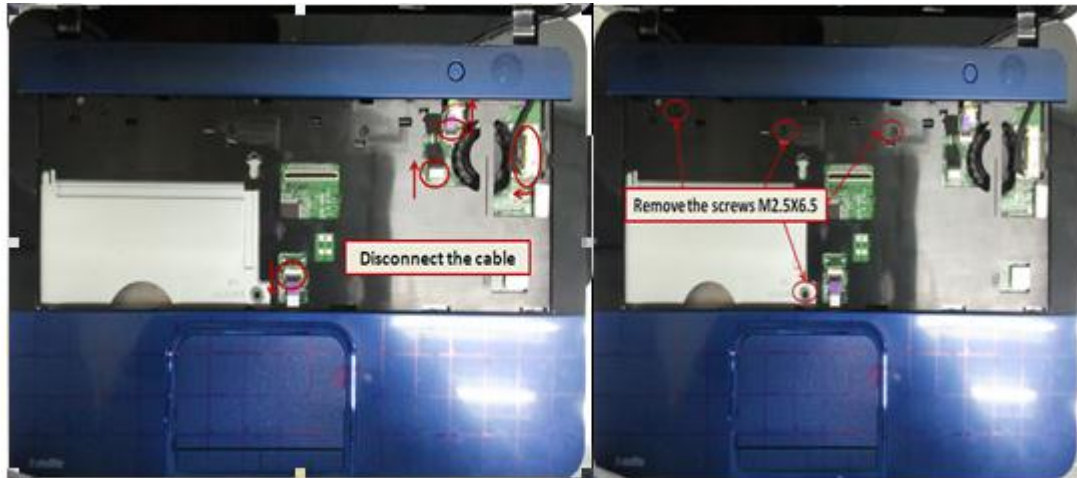

Figure 4-9-2 Disconnect the cables/remove the screws
4. Disconnect the speaker cable, power FFC, button FFC and LCD cable following the direction of arrows.(Figure 4-9-2)
4. Secure the top by screws and connect the speaker cable, power FFC, button FFC and LCD cable(see figure 4-9-2)